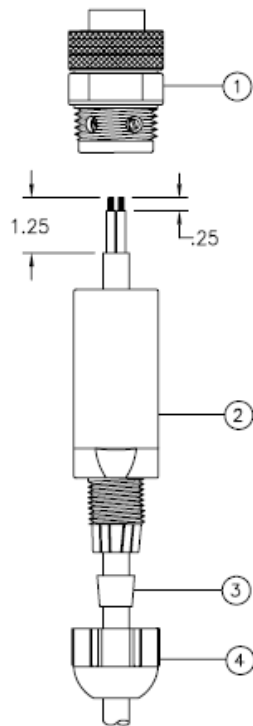

Figure 1 Power Cable Connector Assembly
Refer to Figure 1.
1. Place compression nut (4), grommet (3) and body (2) over power cable as shown in Figure 1.
2. Strip outer jacket and inner conductors as shown in Figure 1.
3. Secure conductors to appropriate terminals by tightening screws on insert assembly (1). Refer to the following table.